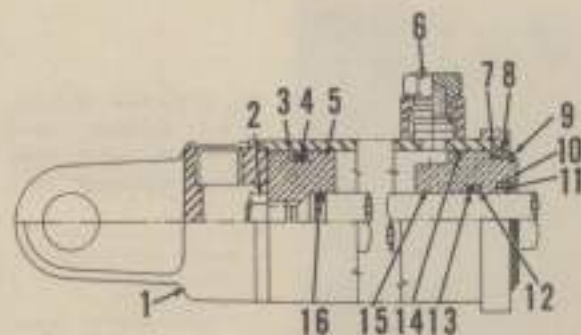

Fig. 171 — Cut-away view of the 2 1/2 inch remote ram which is available.
**256. 2 1/2 INCH REMOTE RAM.** Refer to Fig. 171 for cross-sectional view of this unit. The 2 1/2 inch ram may be used for single acting applications when equipped with vent (6) as shown, or may be used for double acting applications by removing the vent and installing a hose in that port.
To disassemble ram, remove snap ring (9), spacer (8), snap ring (7) and withdraw piston rod, piston and piston rod support assembly from cylinder. To renew piston seals, install one backup ring (3) at each side of "O" ring (4). Further disassembly and overhaul procedure is evident from inspection of unit and reference to Fig. 171.